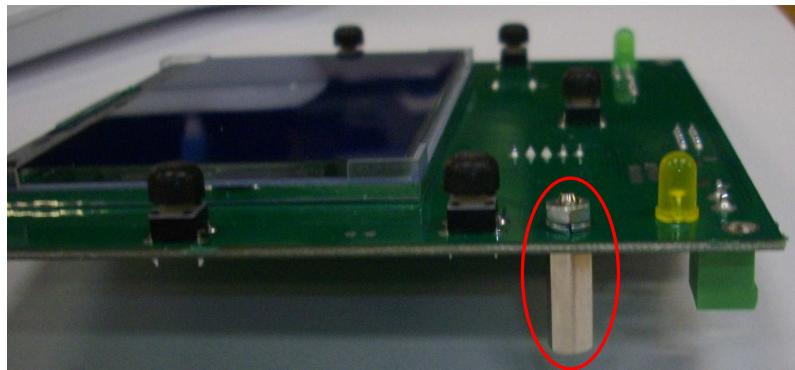
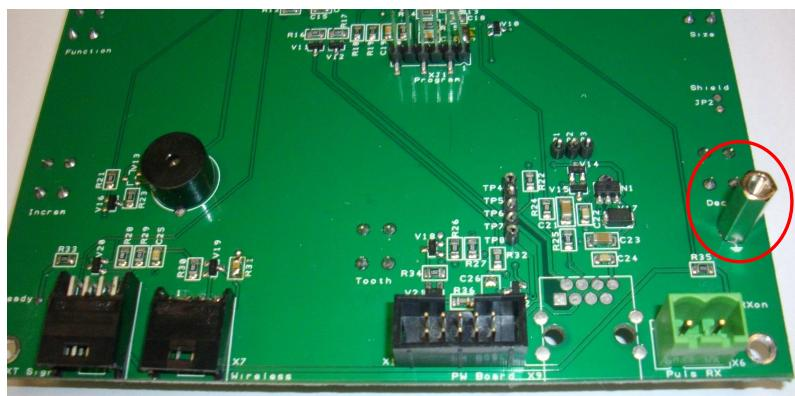

Figure 6-15
Figure 6-16
3. Assemble the hexagonal spacer on the CPU board A2 (component side) as shown in Figure 6-15 and Figure 6-16.